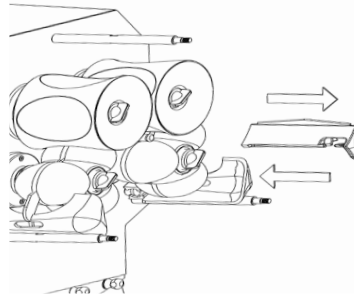

Figure 10
5- Grasp the handle of the Blade (43) and pull it towards you (**Figure 10**).